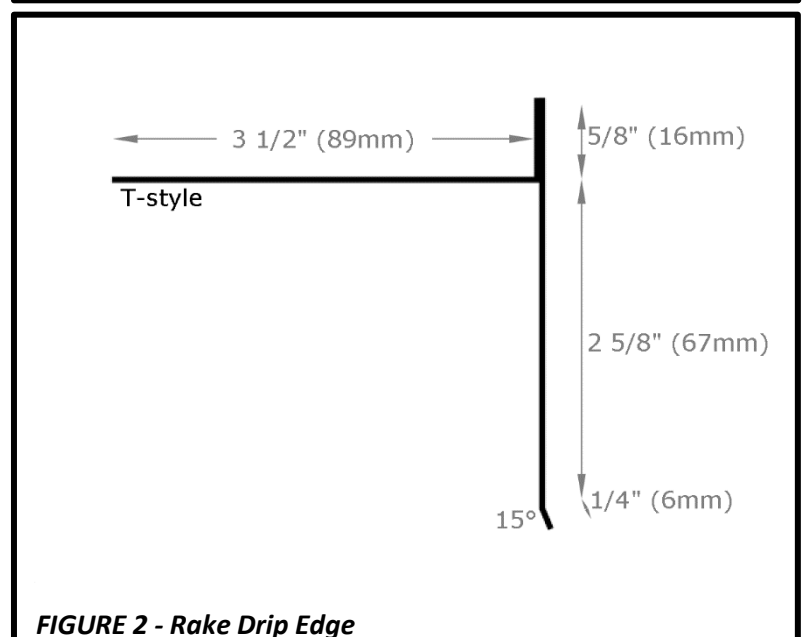

FIGURE 2 - Rake Drip Edge
- RAKES** - FWAVE recommends a **T-style modified drip edge** at rakes to cover the cut edge of the REVIA® shingles. See **Figure 2**. Apply drip edge over underlayment at the rake edges. Trim shingles flush with the T-style drip edge.